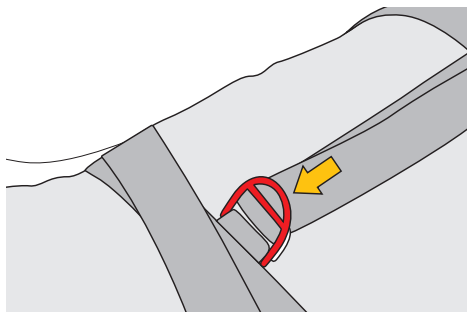

Fig.15
a) Loosen the straps by using the buckles as shown in figure 15.